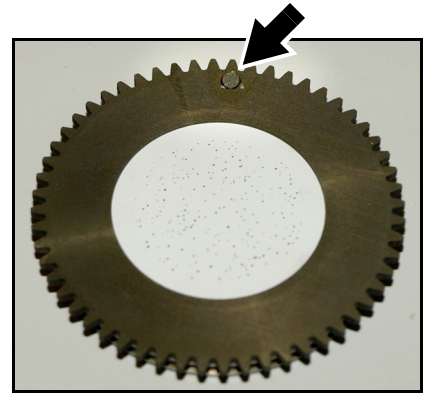

Figure 15: Goboholder magnet
5. See Figure 15. Rotate the goboholder until its magnet (arrowed) lines up with a reference point that you choose on the module chassis. Remove and insert any gobos you replace one by one, with the goboholder magnets lined up with your reference point, and avoid rotating the gobo wheel while a gobo is removed. This will keep gobos in the orientation they were designed for and avoid the need to reprogram the controller because a gobo orientation has changed during service.